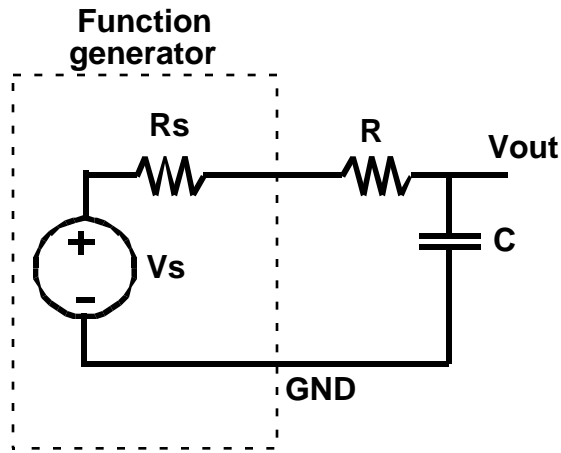

Figure 2. Simple RC circuit.
Figure 2 shows the first-order RC circuit whose step response will be studied in this lab.
The input signal to the circuit in Figure 2 is a perfect square wave with amplitude A (from 0 V to A), and period T where $T \gg RC$. You may also assume that $R \gg R_s$ (the internal resistance of the function generator). Using only symbolic parameters (e.g. R, C, A; not numerical values), derive the equations for the following quantities:
1. Build the circuit in Figure 2 using $R = 10\text{ K}\Omega$ and $C = 0.01\ \mu\text{F}$. Set the function generator to provide a square wave input as follows:
1. The more points you measure on a waveform, the more accurate the measured results but this also takes more time and increases the test cost. This is an important tradeoff in measurement accuracy and test cost. Given the circuit in Figure 2, ten data points per waveform were collected in section 7.3 item 7. Should you collect more or fewer than 10 points to extract a “good” estimate of the rise or fall time of the circuit (as defined above)? “Good” estimate means the estimated value is within 10% of the correct value (from computation or simulation).
2. Below the frequency 500 MHz or so, the RC model for wire delay is very good. For very high-frequency systems ($f > 1$ GHz), the RC model is not as accurate. Another circuit incorporating the inductive effect (using the inductor L in series with the resistor R in Figure 2) is used to model interconnect delay. Check the papers in the journals mentioned above to see how the delay is calculated using this model.
1. Use a different input signal (e.g. a ramp waveform from the function generator) in Figure 2. Repeat the measurements of the timing parameters and see what the waveforms look like on the scope.